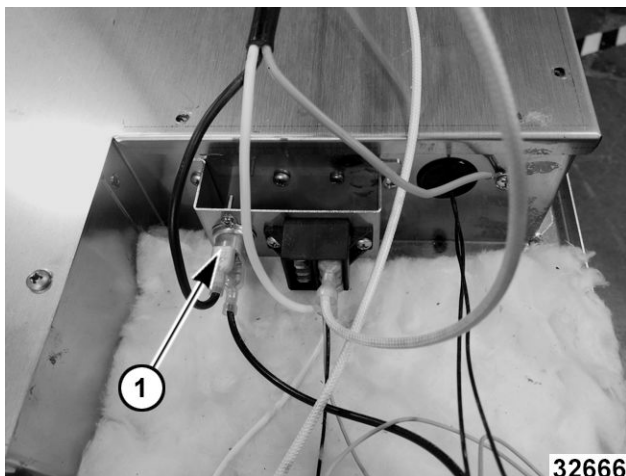

Fig. 16
3. Remove mounting screws for high limit switch (1, Fig. 16).